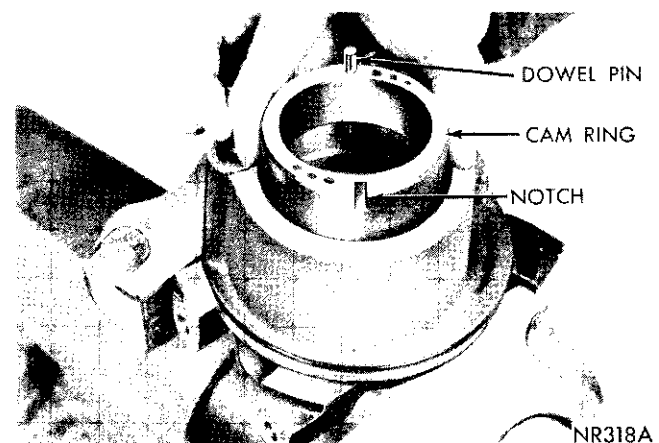

Fig. 26—Installing Cam Ring
(7) Place dowel pin in cam ring and position cam ring inside pump bore. Notch on cam ring must be up or away from pulley end of pump (Fig. 26). If cam ring has two notches, one machined and one cast, install with machined notch up. Machined notch has sharp corners and cast notch rounded corners.